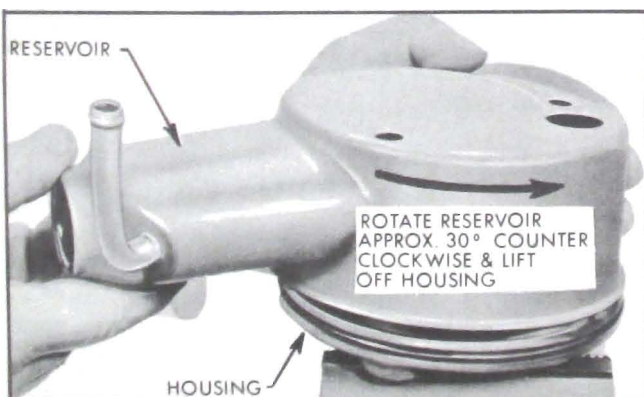

Figure 8-64—Removing Reservoir from Housing
7. Remove reservoir from housing by rotating reservoir counterclockwise (approximately 30 degrees) until reservoir can be lifted freely from housing. See Figure 8-64.